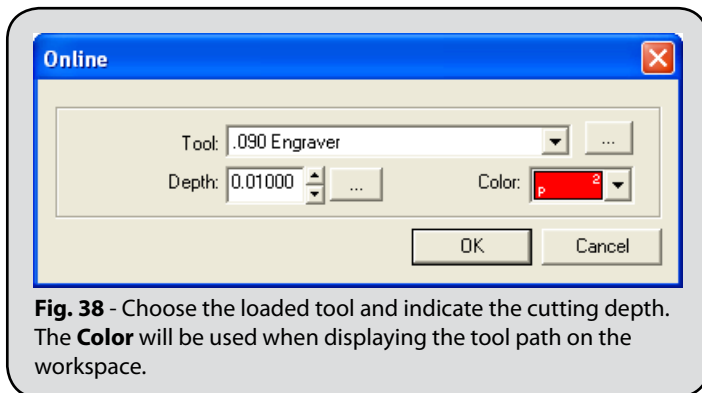

Fig. 38 - Choose the loaded tool and indicate the cutting depth. The **Color** will be used when displaying the tool path on the workspace.
4. The **Online** dialog will open. For this example, a 0.005 ¼” Engraver was used, and the **Depth** was set to 0.01” (Fig. 38).